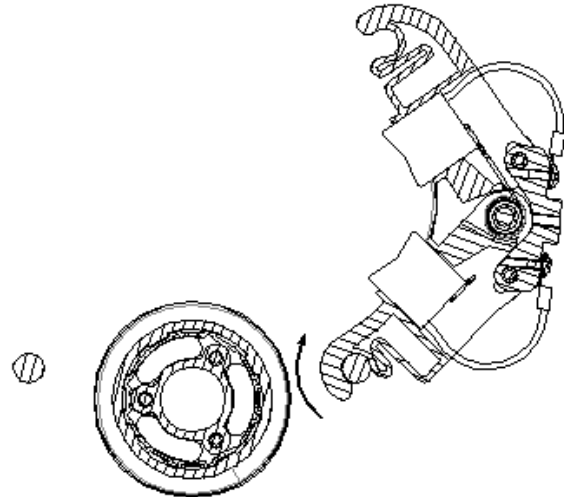

Fig. 18
- checking the brushes wear: replacement if  $X \geq 20\text{mm}$  (Fig.18)
-Rotate the brush holder as shown Fig. 18.